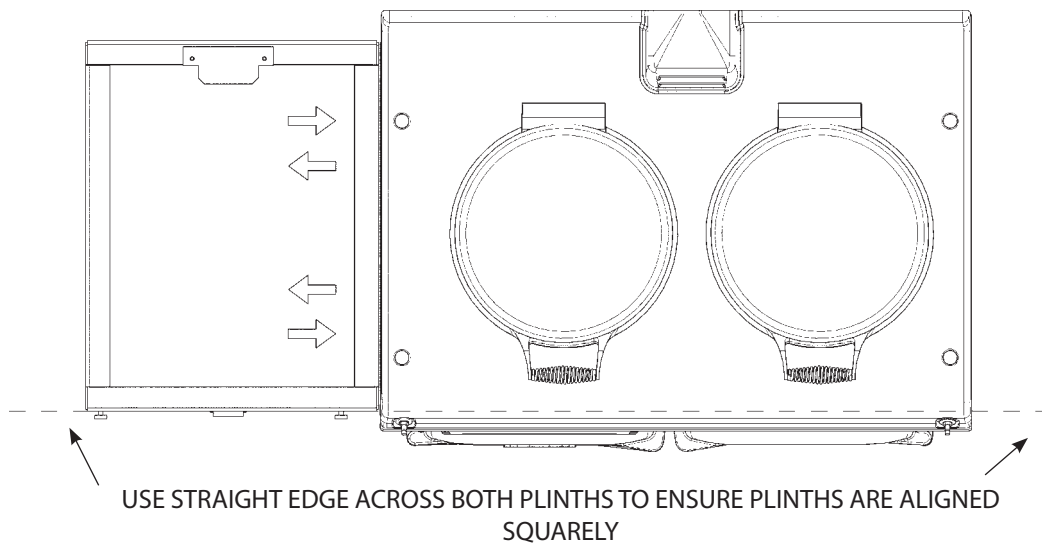

Fig. 17.5
4. Run a straight edge along the front of the AGA R7 100 plinth, to ensure the front face of both plinths sit squarely against the straight edge. (**Fig. 17.5**)